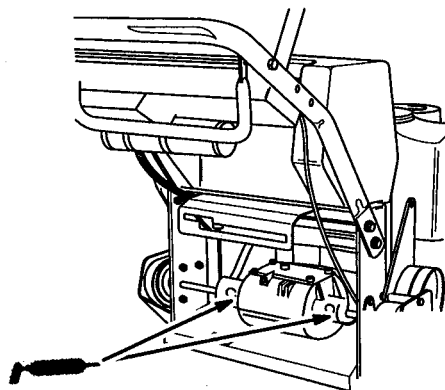

Figure 30
2. Lubricate the transmission couplers (Fig. 30).